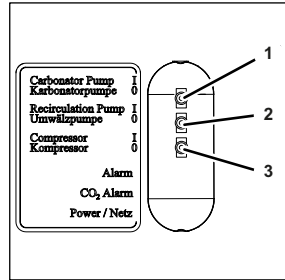

Figure 146
9. Turn the compressor switch (Figure 146/1) to position “1”.
10. Turn the carbonator pump switch (Figure 146/3) to position “1”.
11. Turn the circulation pump switch (Figure 146/2) to position “1”.